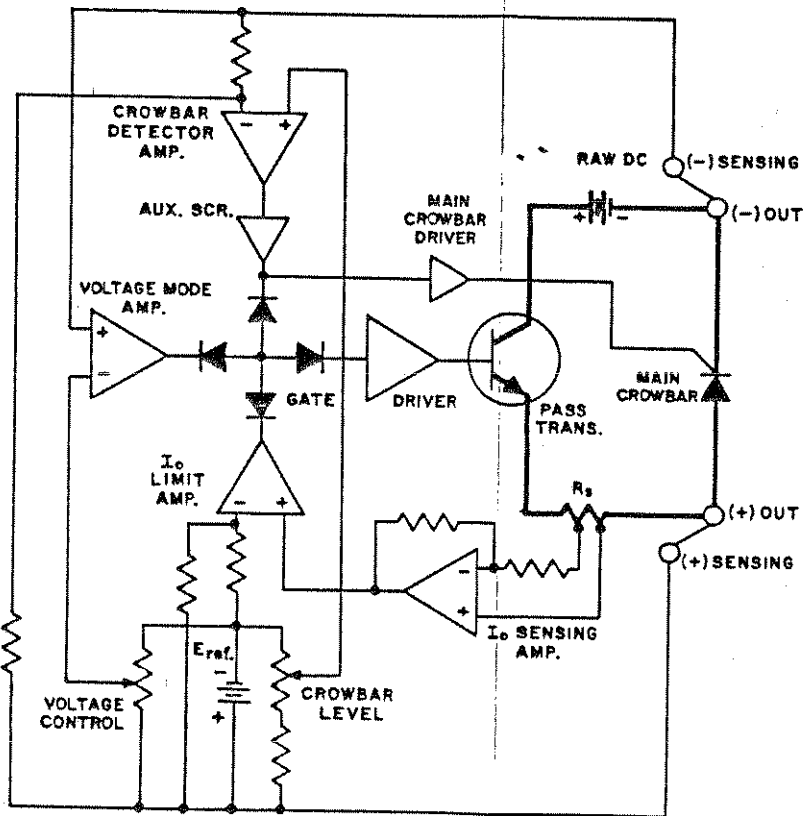

FIG. 4-2 SIMPLIFIED SCHEMATIC DIAGRAM, 6V-5A SUPPLY
- 4-2 (6V, 5A SUPPLY, SEE FIG. 4-2). This is a 0 to 6V, 5A stabilized power supply with error-sensing, fixed current limiting and adjustable crowbar level. As seen from FIG. 4-2, the RAW D-C SOURCE is connected in series with the PASS TRANSISTOR, the current sensing resistor ( $R_g$ ) and the external load across the ( $\pm$ ) OUT terminals. The PASS TRANSISTOR changes its collector/emitter potential in response to the control signal received from the DRIVER stage, which in turn is controlled by a signal from the VOLTAGE MODE AMPLIFIER, the  $I_O$  LIMIT AMPLIFIER or the CROWBAR DETECTOR.